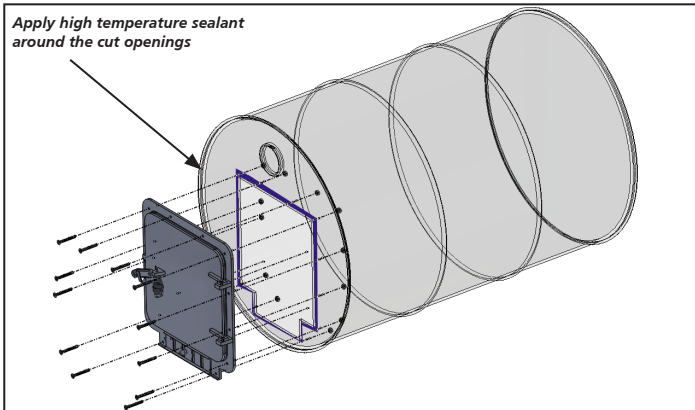

Figure 2
6. **Apply high temperature sealant around the cut openings**, then press the door frame against the sealant and over the holes. Secure the door frame to the barrel using bolts provided with the kit. (Figure 2)